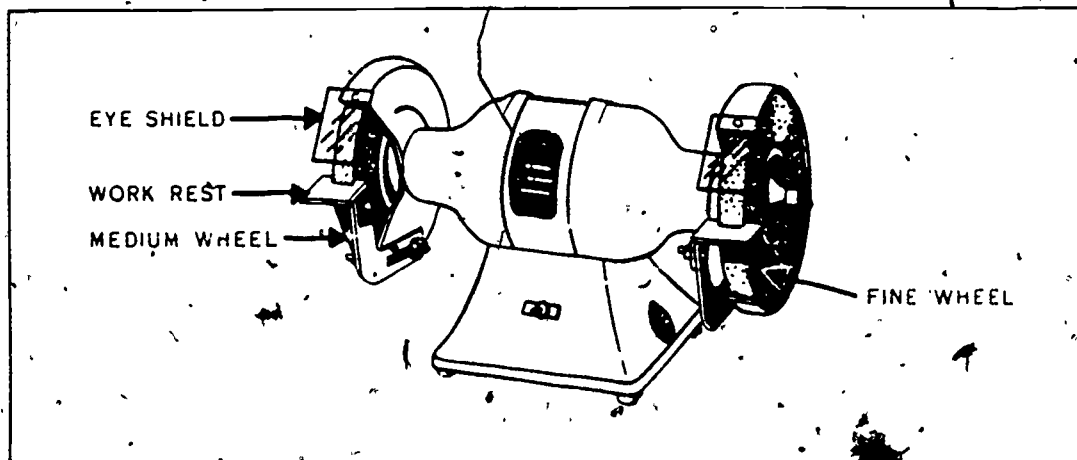

Figure 3-48. Bench grinder
*Bench grinder.* The bench grinder, shown in figure 3-48, is a tool used for such handgrinding operations as sharpening chisels, screwdrivers, drills, and punches; removing excess metal from work; and smoothing metal surfaces. It is usually fitted with both medium- and fine-grain abrasive wheels. These wheels may be removed and other wheels substituted for them. Such wheels may include wire brushing wheels, buffing wheels, or polishing wheels.